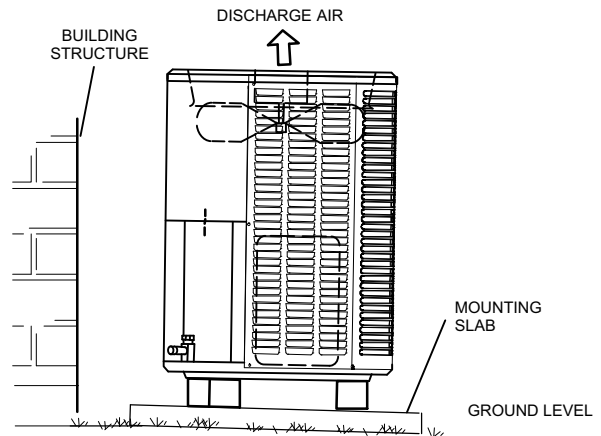

Figure 3. Placement, and Slab Mounting
- When possible, do not install the unit directly outside a window. Glass has a very high level of sound transmission. For proper placement of unit in relation to a window see the provided illustration in figure 3, Detail A.
When installing unit at grade level, the top of the slab should be high enough above grade so that water from higher ground will not collect around the unit. The slab should have a slope tolerance as described in figure 3, Detail B.